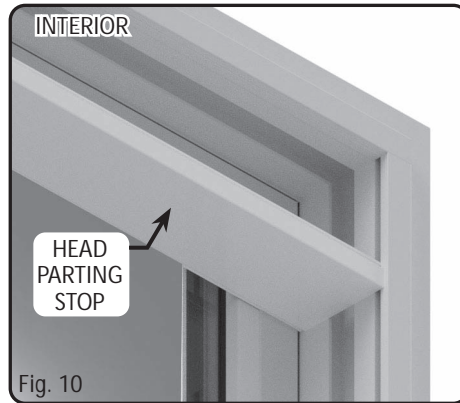

Fig. 10
- (Fig. 10) Slide both sash down so you can access the head parting stop. The head parting stop is secured in place by snap in legs on the parting stop itself. Take a thin putty knife between the parting stop and frame and pry the parting stop away from the frame at an angle.